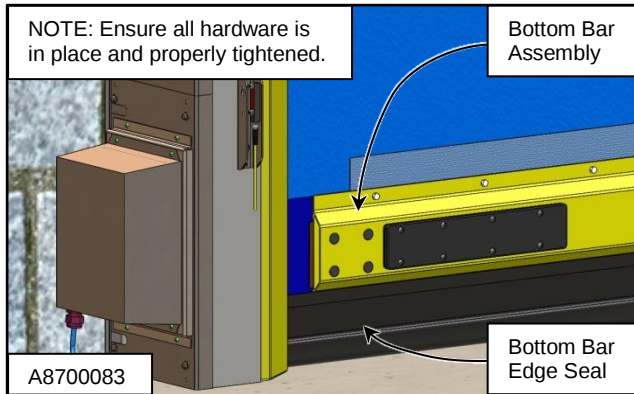

Figure 26
3. Inspect the bottom seal along the bottom bar assembly for wear, tears, and/or abrasion. Replace any worn or damaged parts as required. (See Figure 26)